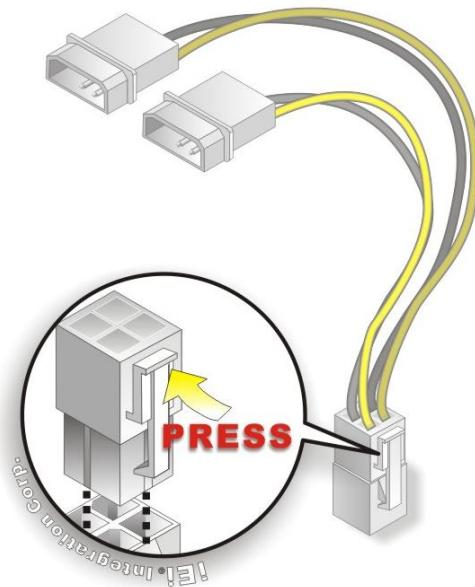

Figure 4-11: Power Cable to Motherboard Connection
Step 2: Connect the power cable to the motherboard. Connect the 4-pin (2x2) Molex type power cable connector to the power connector on the motherboard. See **Figure 4-11**